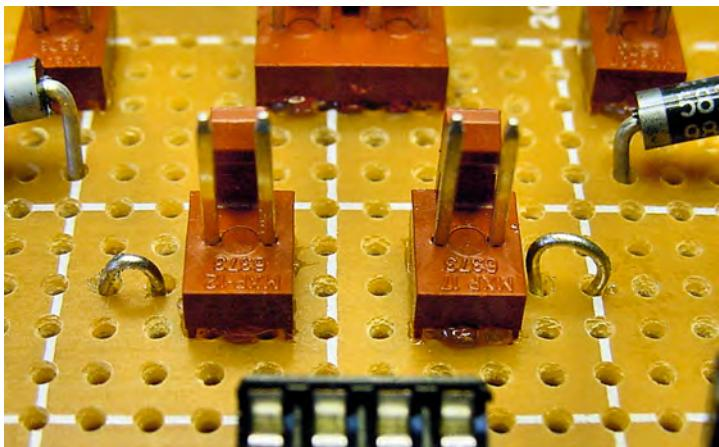

Figure 23-12. Loops atop breadboard to allow attachment of multimeter IC hook probe tips for positive voltage (left) and negative voltage (right)
11. Loop the bare wire up to the top of the board and back down again (see left side of Figure 23-12). Not only does this provide a mechanically strong starting point for the bus wire, but also makes a nice little loop that is perfect for hooking a multimeter probe.